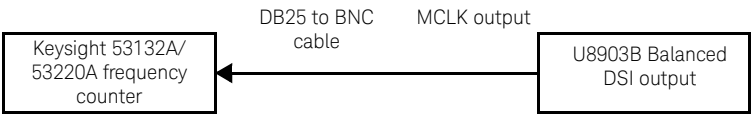

Figure 4-1 Keysight 53132A/53220A to DSI MCLK output for balanced DSI master clock output frequency accuracy verification
- 1 Connect the Keysight 53132A/53220A frequency counter input channel 1 to the U8903B DSI MCLK output line using the DB25 to BNC cable as shown in **Figure 4-1**.